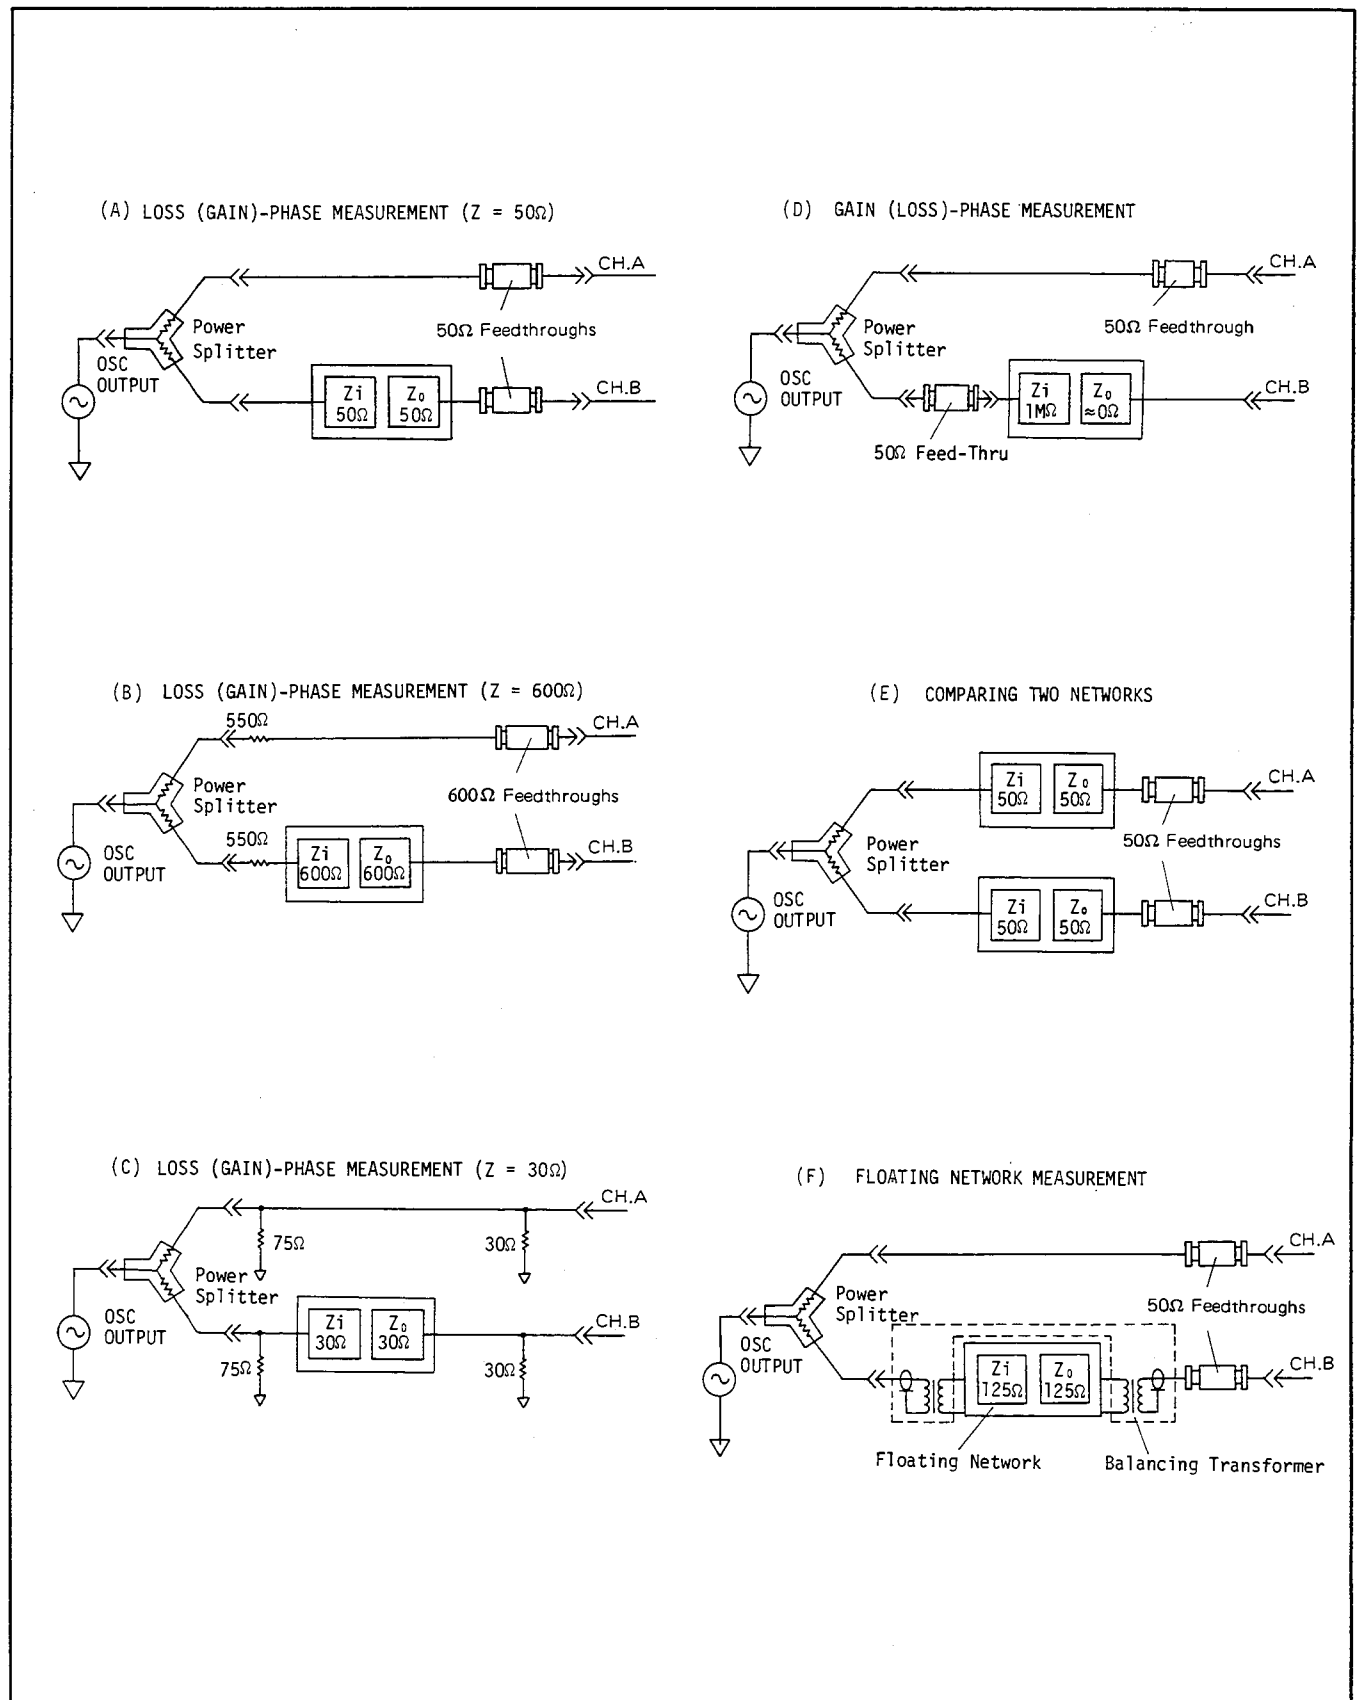

Figure 3-8. Input Configurations
3-47. Figure 3-8 illustrates and describes the basic input configurations for various types of measurements. Connections of these input configurations should be made using coaxial cables with BNC connectors as listed in Table 3-9. When making input connections, observe the following guidelines:
Note: When making a relative gain/loss (B-A) measurement with either the 4192A or a Network Analyzer using the input configurations shown in Figure 3-8, the measurement results are the same but those of an absolute amplitude (A/B) measurement may differ. This is because the 4192A uses a passive (2-resistor) power splitter and the Network Analyzer uses an active power splitter.
3-49. In most measurement applications the network under test must be driven and terminated in its characteristic impedance. If the characteristic impedance of the network matches the  $50\Omega$  output impedance of the 4192A OSC OUTPUT, the network can be connected directly to the OSC OUTPUT through the power splitter as shown in Figure 3-8 (A). In this case, both the reference input and test input should be terminated with a  $50\Omega$  Feedthrough and connected to CHANNEL A and CHANNEL B, respectively.
3-50. If the characteristic impedance of the network is greater than  $50\Omega$ , a compensating resistor can be added in series with the OSC OUTPUT between the power splitter and the network to obtain the required output impedance. For example, if the input impedance of the network is  $600\Omega$ , a  $550\Omega$  resistor can be added in series with the  $50\Omega$  output to obtain the required  $600\Omega$  as shown in Figure 3-8 (B). Note that the reference input shown in Figure 3-8 (B) also has a compensating resistor to maintain identical impedances in both channels. In this case, both the reference input and test input should be terminated with a  $600\Omega$  Feedthrough and connected to CHANNEL A and CHANNEL B respectively.
For example, if the input impedance of the network is  $30\Omega$ , a  $75\Omega$  shunt resistor can be added in parallel with a  $50\Omega$  output to obtain  $30\Omega$  as shown in Figure 3-8 (C). Note that the reference input shown in Figure 3-8 (C) also has a shunting resistor to maintain identical impedances in both channels. In this case, both the reference input and test input should be terminated with the  $30\Omega$  shunt resistor and connected to CHANNEL A and CHANNEL B, respectively. When driving an impedance lower than  $50\Omega$ , a certain amount of insertion loss will be encountered. The amount of loss depends on the type of impedance matching network used and on the various impedance ratios. Whenever a loss is encountered, an equal loss should be introduced in CHANNEL A so that the reference input accurately represents the input of the network. This can be accomplished by placing identical shunt resistances and identical terminations in both channels.
3-52. When the network to be tested has a high input impedance ( $1M\Omega$ ) and low output impedance ( $\approx 0\Omega$ ), each channel should be terminated with a  $50\Omega$  Feedthrough and then the network can be connected to CHANNEL B as shown in Figure 3-8 (D).
3-53. Deviation measurement from reference network can be performed by inserting the standard network between the power splitter and CHANNEL B. Figure 3-8 (E) shows an input configuration of networks which have  $50\Omega$  characteristic impedance. In this case, both the
3-54. Floating networks can be measured by floating from the measuring circuit using a balancing transformer. Figure 3-8 (F) shows the input configuration of a network which has 125Ω characteristic impedance. In this case, both the reference input and test input should be